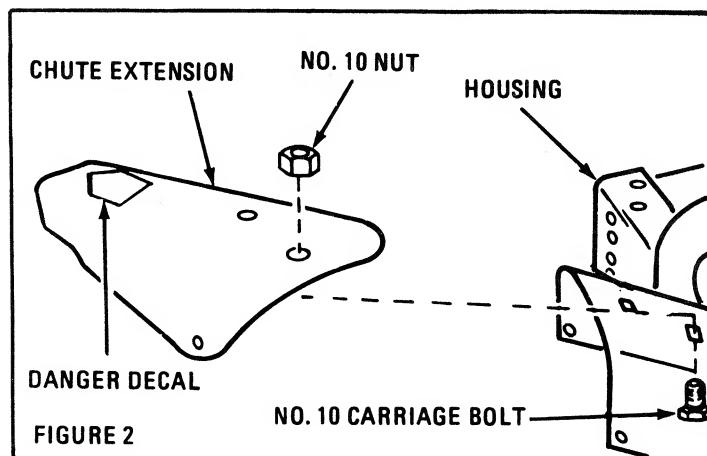

FIGURE 2
#### CHUTE EXTENSION INSTALLATION (See Figure 2)
- b. Check control cable from bail down to engine. If cable is not moving where it enters the engine when the bail is operated, check for breakage or misplacement of the upper end of cable. Eye on end of cable should be nested in the first bend in the bail (See figure 2).